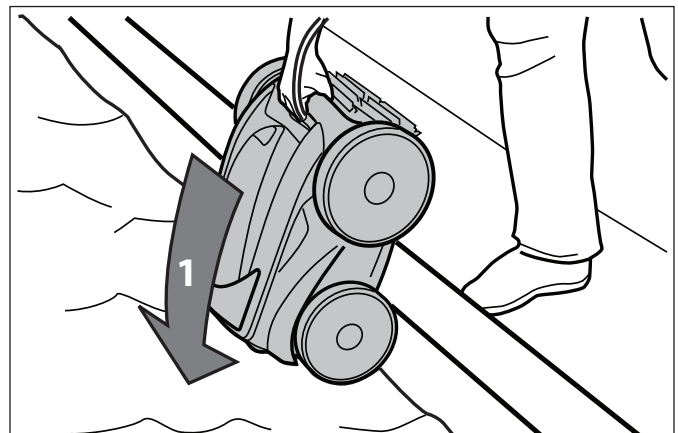

Figure 13. Submerge the Cleaner Vertically
1. Submerge the cleaner in the pool and remove any air trapped inside by keeping the unit vertical (Figure 13).